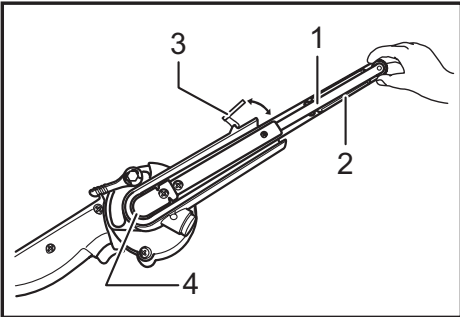

Fig.4
► Fig.4: 1. Arm 2. Abrasive belt 3. Cam lever 4. Rear pulley